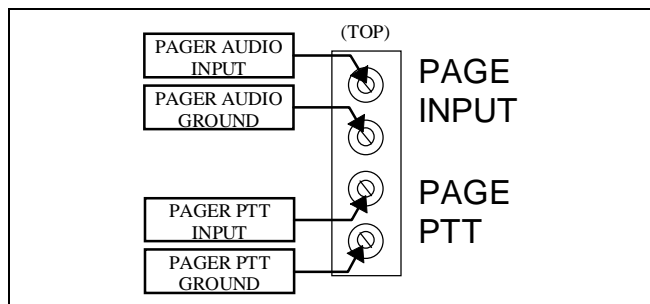

Figure 11 – I/O Board Pager Terminal Block Pin-Out
Connect the pager to the terminal block in accordance with the manufacturer's instructions. As shown in Figure 11, the two (2) upper terminals on the terminal block are the "PAGE INPUT" connections and the two lower terminals are the "PAGE PTT" connections. These inputs *are not* isolated from ground and the ground terminals are common. See the specifications page in LBI-39062 for audio signal input level specifications.